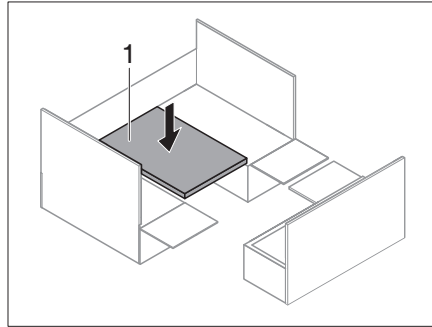

Fig. 218 Hooking table down
- Move the hooking table (Fig. 218,1) from the upper attachment rail into the lower attachment rail.